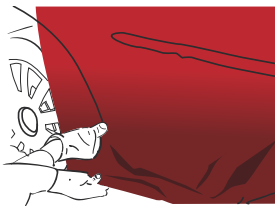

Figure 10
- ▶ Apply the peak with your finger or a felt-covered plastic squeegee. (FIG. 10)